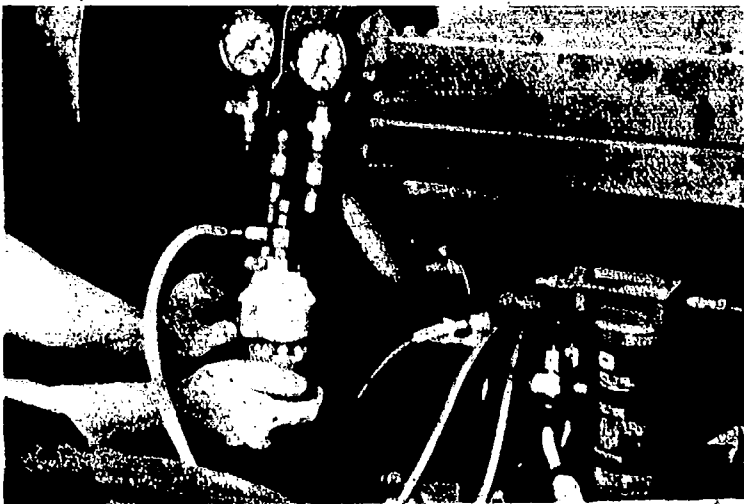

Fig. 74 — Add R-12 Through Suction Hose To Blow Oil Into Compressor
3. Connect a can of Refrigerant-12 to suction hose (Fig. 74).